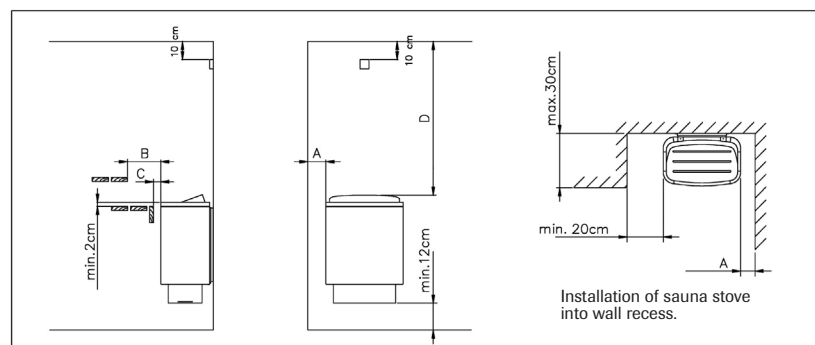

Fig. 3. Installation of sensor box
- For control centre NAE-2003 the sensor box is installed as shown in Fig. 3